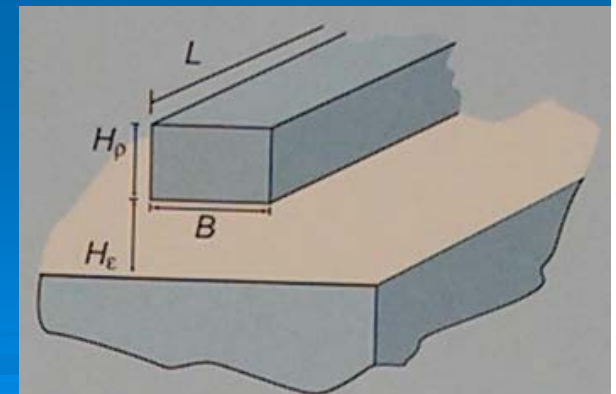

Figure 11: Sketch of the geometries assumed for the model interconnect.
- Specially over long distances, due to electromagnetic character of signals and finite speed of light (fig 11)